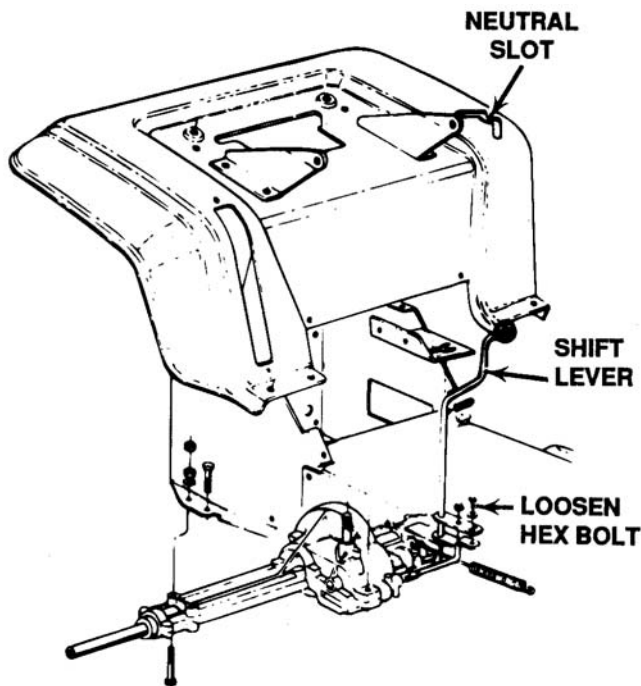

Figure 7-3. Adjusting Shift Lever to Neutral
2. Loosen the bolt which secures the shift lever assembly to the shift lever adjusting link. See Figure 7-3.